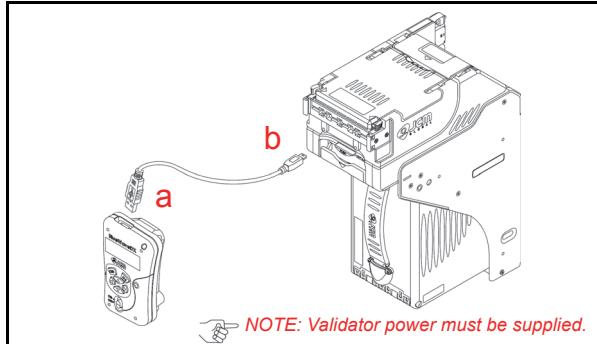

Figure 9 Cable Connection
- Connect the USB Cable A Terminal to the DT-300™ Unit’s Connector “A” Port (See Figure 9 a).
- Connect the USB Cable B or Mini-B terminal to the Validator’s USB Port (See Figure 9 b).